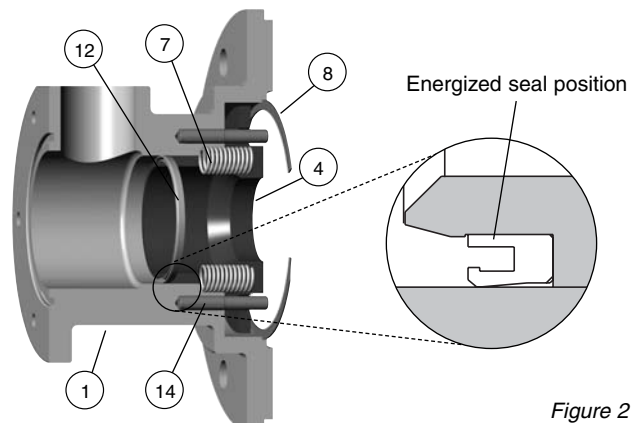

Figure 2
Please refer to Figure 2. Be aware that there is spring force present during this operation. Place the body (1) and piston (4) assembly into a press with the flat face of the piston facing up. Place a block of wood on the flat face of the piston to protect it. Push the piston into the body and remove the retaining ring (8). Release the press, spring force will push the piston out of the body most of the way. Once the spring force is relaxed, separate the piston from the body.
Install a new energized seal (12) onto the piston. Install the energized seal with the cup or U shaped portion facing the end of the piston opposite the seal ring's sealing surface. See Figure 2.
Slide the retaining ring bolts (2A) into the head retaining ring (21). Slide the new spring washers (2B) over the retaining ring bolts. Make sure that the washer is installed with the cone facing the ring as shown in Figure 2. Install the retaining ring in a manner so that the head is sitting on the adjusting screw (13). Pushing down on the head to ensure that it is in the lowest position, tighten the retaining ring bolts and the support tube nut. Tighten the retaining ring bolts to 30 to 42 ft-lbs (41 to 57 Nm) and the support tube nut to 175 to 200 ft-lbs (237 to 271 Nm).